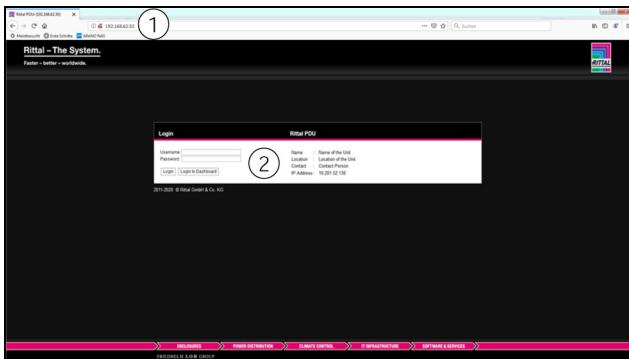

Fig. 34: Login dialogue for login on the device
- Enter the displayed IP address in the browser. In the example, <http://10.201.52.138> (see fig. 34, item 1). The login dialogue for login on the device is displayed
- Log in with the username **admin** and the password **admin** (fig. 34, item 2).
- In the browser, enter the address **http://192.168.0.200** (fig. 34, item 1). The logon dialog for logging on to the device will be displayed.